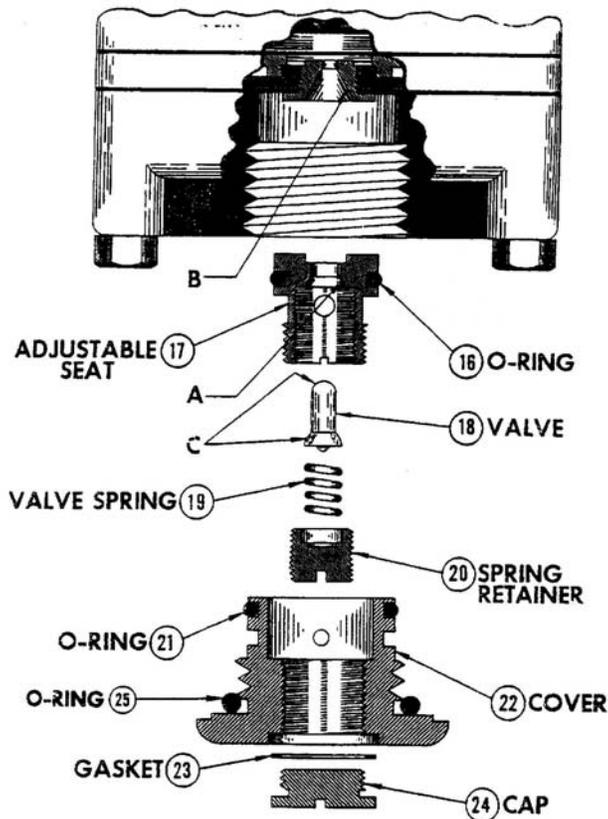

Figure 3
This is not a normal operating adjustment. However, when necessary, the ratio of input to output pressure may be adjusted by adjusting Valve Seat (17) as follows (see Figure 3 except where noted):
If the control pressure does not go to minimum output pressure or zero, or if the exhaust appears to be leaking, follow the instructions below (refer to Figure 3 except as noted):
2. Inspect the Valve (18) surfaces for bumps, scars or other irregularities. The Hemispherical Surfaces (C in Figure 3) must be smooth and regular.
3. Inspect the Valve Seats (A and B in Figure 3). The surfaces must be clean and smooth with no scars or surface irregularities.
5. Install the Valve (18), Valve Spring (19) and Spring Retainer (20) and make sure that the Valve Spring (19) is seating the Valve (18) properly.